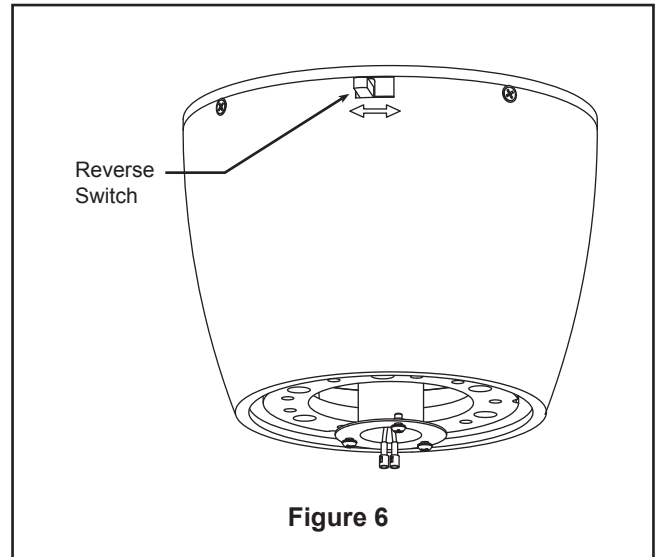

Figure 6
6. Connect the 2 single pin connectors from the light kit assembly to the 2 single pin connectors from the motor assembly. (Figure 6)
- ### 6. If airflow is desired in the opposite direction, turn the fan off and wait for the blades to stop turning. Then slide the reverse switch on top of motor assembly to the opposite position and turn fan on again. (Figure 6)